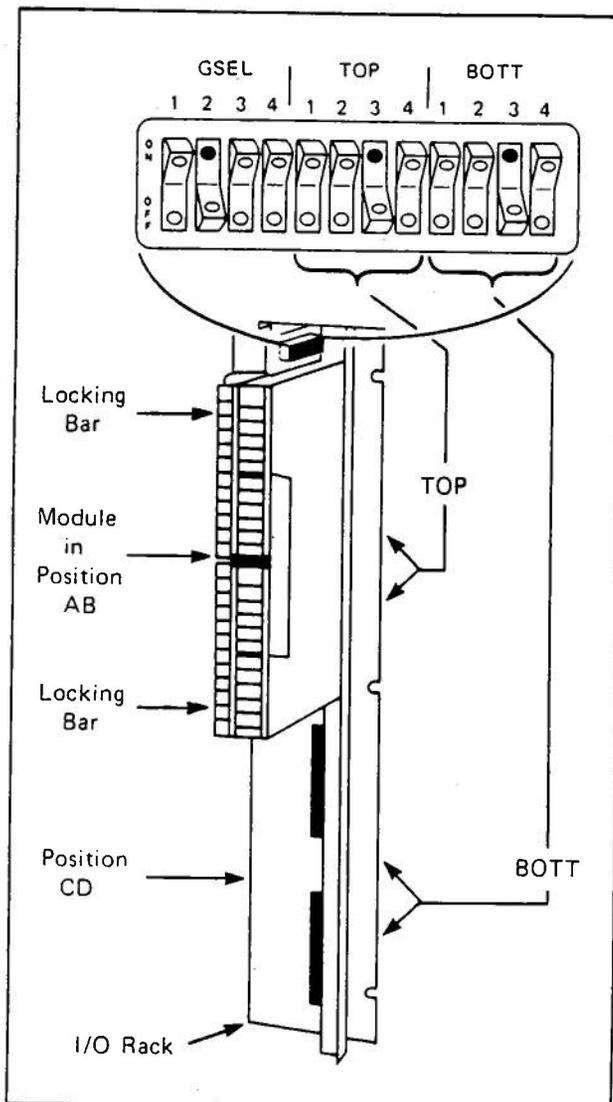

Figure 6 - Vertical Rack Switch Location
Step 1 - Refer to system drawings and determine in which I/O Rack and in which positions in the Rack the Module will be placed. (Although a Module can be placed in either the upper two Positions or lower two Positions, it must not straddle Positions B and C. See Figure 6.)
Step 3 - Move the appropriate Locking Bars on the I/O Rack's built-in terminal blocks to the left to uncover the guide slots on the blocks (Figures 6 and 7).
Rack Switch Settings - Set the desired GSEL switch to ON (see Figure 6 for switch location and Table A for Rack Switch Settings). Set unused GSEL switches OFF.